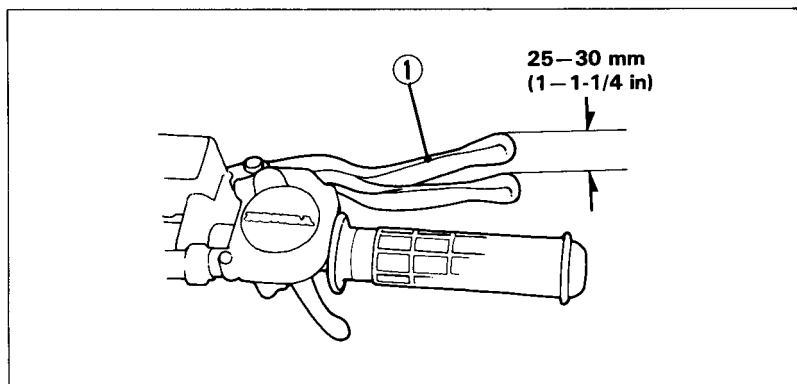

Fig. 4-21
1. Measure the distance the brake lever (Fig. 4-21) moves before the brakes start to take hold. Free play, measured at the tip of the front brake lever (1) should be within 25–30 mm (1 – 1-1/4 in).